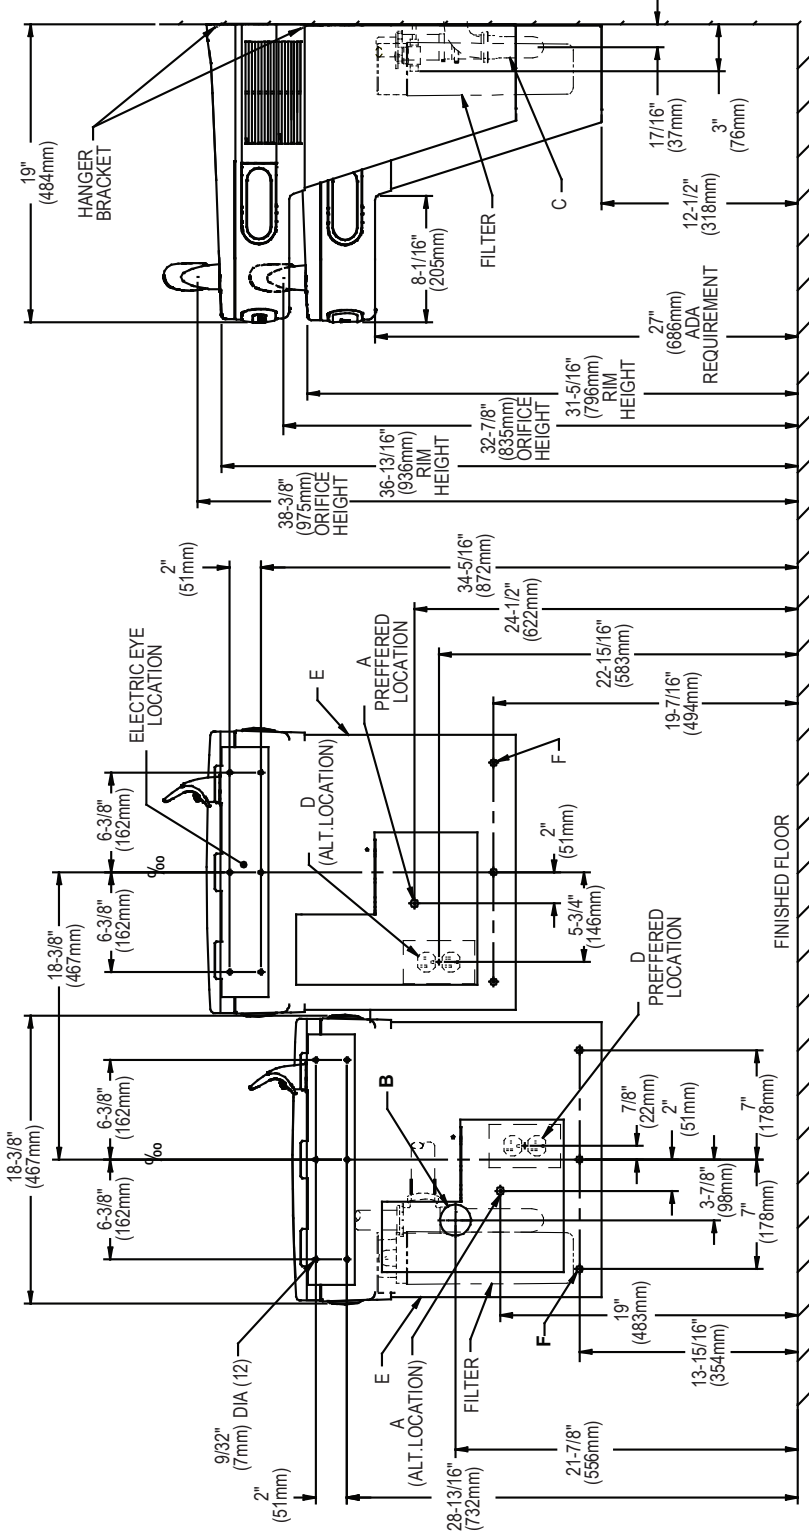

**FIG. 3**
- 1) Remove hanger brackets fastened to back of cooler by removing one (1) screw.
- 2) Mount the hanger brackets as shown in Figures 3, 4.
- NOTE:** Hanger Bracket **MUST** be supported securely. Add fixture support carrier if wall will not provide adequate support. Anchor hanger securely to wall using all six (6) 1/4 in. dia. mounting holes.